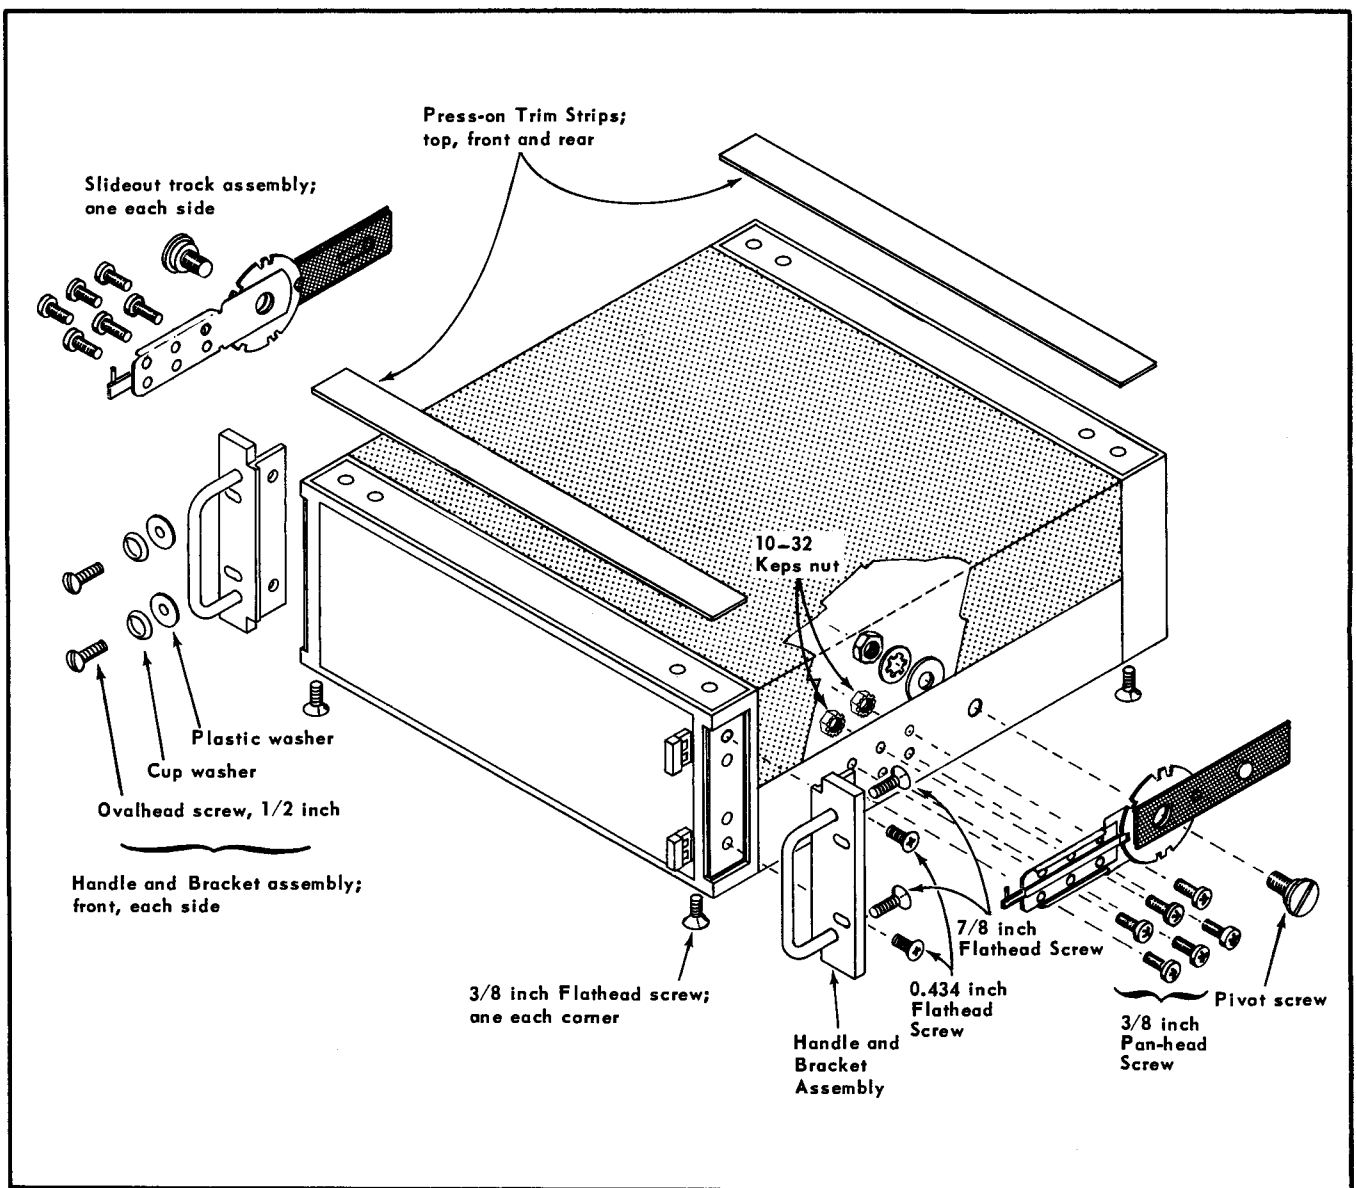

Fig. 9-2. Parts peculiar to the Type R241 chassis. See Figs. 9-4, 9-5 and 9-10 for rack attachment parts.
The following parts must be added to complete the conversion. Installation instructions follow the list. Locations of parts to be attached to the chassis are shown in Fig. 9-2. Identification of the slide-out track assembly parts is contained in Fig. 9-4.
1. Remove the nut and washers from the pivot screw of the right side chassis section. The right side section can be identified by the tiltlock release knob which will point toward the top of the unit after installation. (See Figs. 9-2 and 9-4.) Hold the assembly together while removing the nut and while installing the assembly on the chassis.
2. Place the assembly against the chassis, inserting the pivot screw into the hole indicated in Fig. 9-2. Replace the flat washer, lock washer and nut on the pivot screw and hand-tighten the nut. Check that the slide, the tiltlock mechanism, and the chassis side are tight against each other. If not, manipulate the components while working the pivot screw until they do fit together tightly. Then again hand-tighten the nut.
3. Fasten the mounting arm to the chassis, using six 10-32 x 3/8 inch pan-head screws and six 10-32 keps nuts (see Fig. 9-2).
Type 241. These parts are shown in Fig. 9-2 and can be removed as follows: